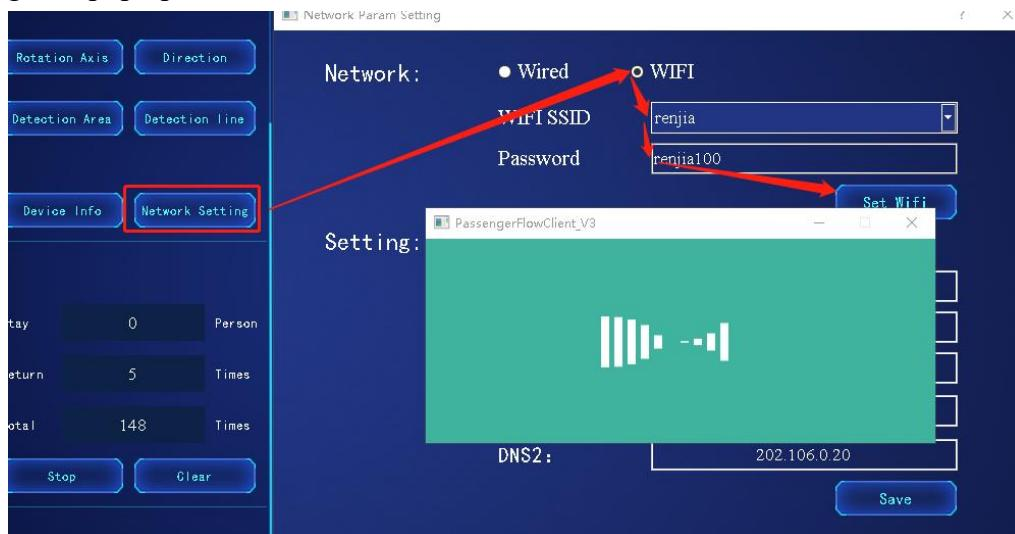

Figure 2-50 Example of WIFI settings
(2) Wireless network settings
- Click the “WIFI Settings” button, and the WIFI verification progress bar will pop up, as shown in Figure 2-50;